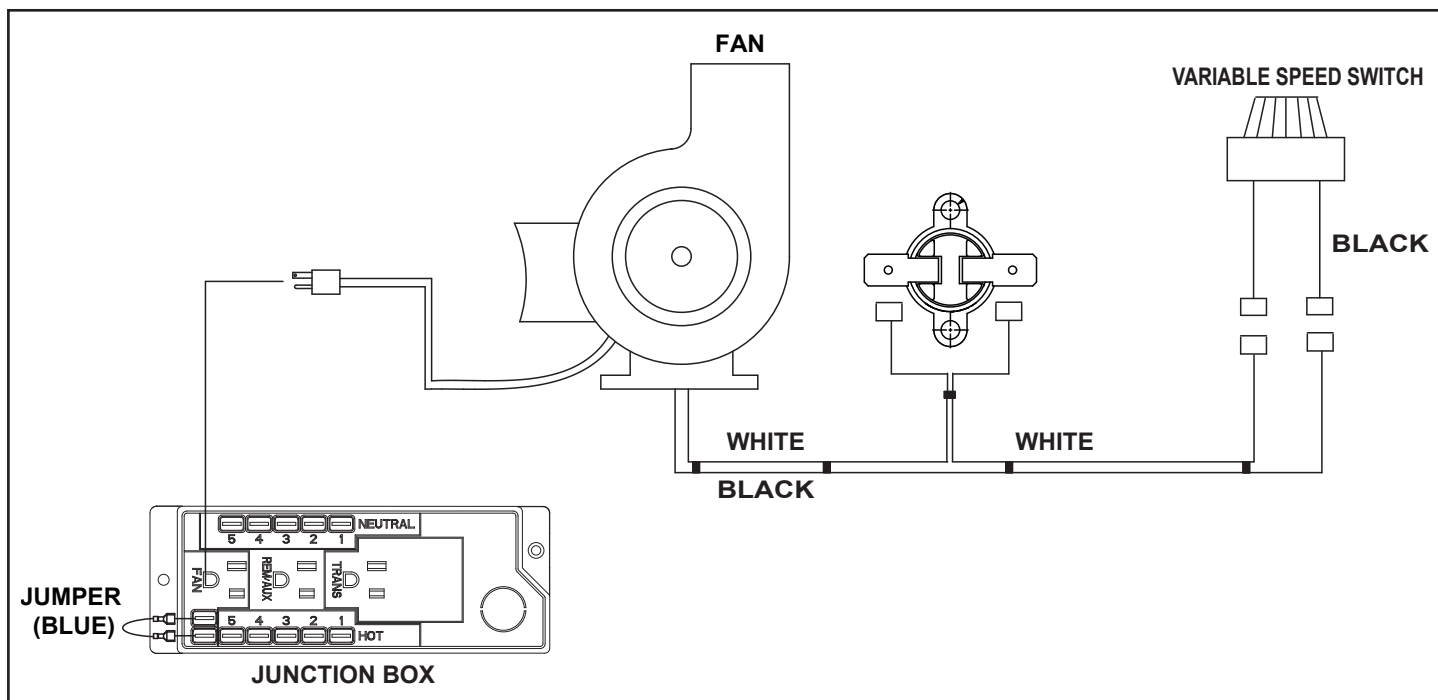

Figure 8.9 - Fan Wiring Diagram
- Install the speed control (rheostat). The speed control mounts to the right rear corner of the component tray. Insert the stem of the speed control through the hole located on the right side of the cover. Secure with the pal nut using an 11/16 in. (17.5 mm) wrench See Figure 8.8. Attach the black and white wires routed under the appliance indicated in Figure 8.9 (wiring diagram), to the variable speed switch wires. Use the blue jumper wire provided in the appliance component bag to make the connection on junction box terminals as shown in Figure 8.9. Push the speed control knob onto the stem. Secure any extra wire up and out of the way using the zip tie provided.
- Plug the fan into the receptacle labeled "FAN" on the junction box. See Figure 8.9. The blower will not run until the appliance has heated up enough to activate the snap disc. This can take up to 15 minutes depending on the temperature of the room. Likewise, the blower will not automatically turn off until the appliance has cooled off enough to turn off the snap disc.